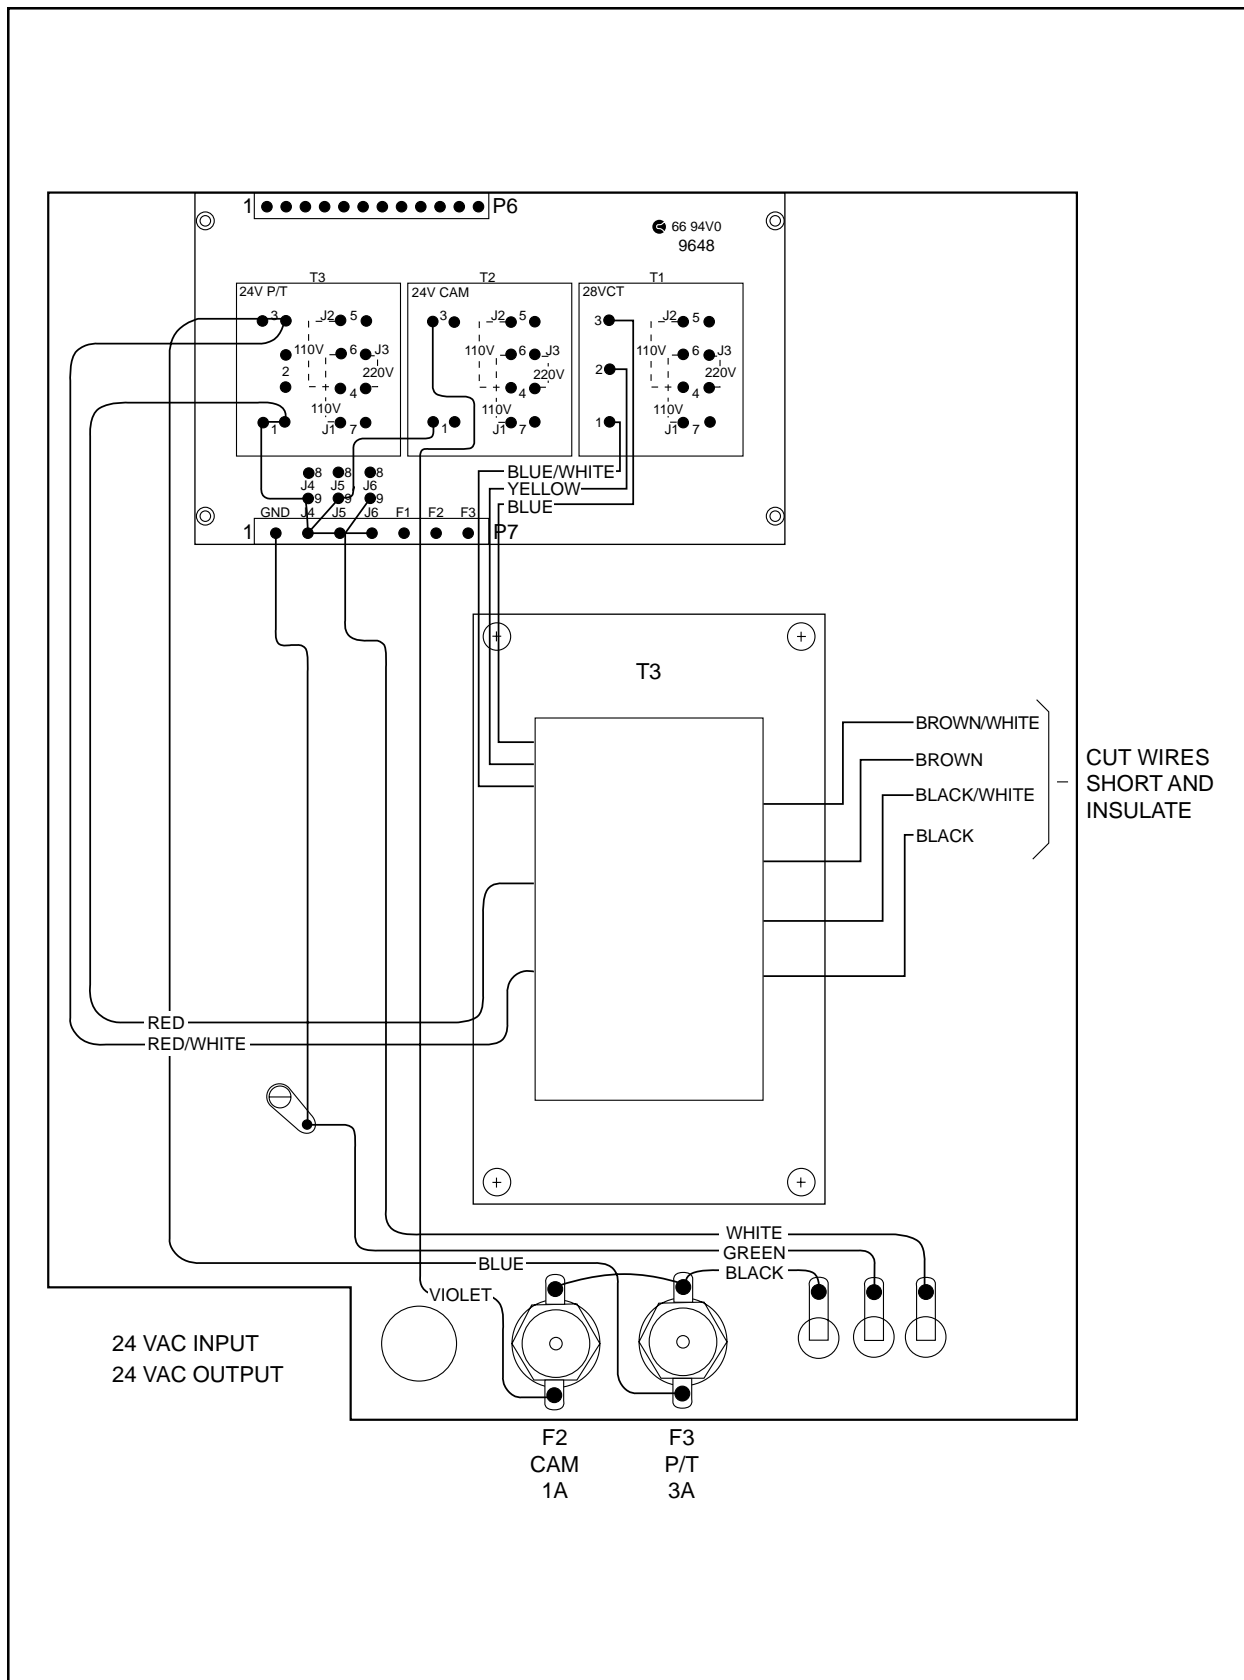

Figure 4. 24 VAC Power Input Modification Diagram
3. Slide the connector pins into the appropriate holes in the connector body until they snap into place. Refer to Figures 4 and 5 for correct pin arrangement, depending on model and options.